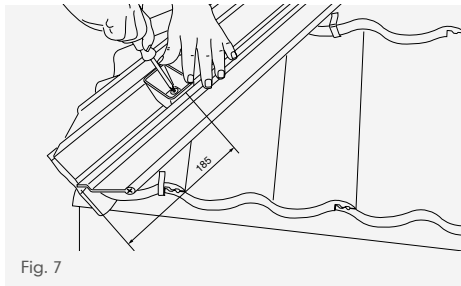

Fig. 7
- 10 Locate PVCu fixing/expansion blocks inside the dry hip batten section and fix to hip tree or rafter using the 75mm x 10g stainless steel drive screws (supplied in fixing kit) (Fig. 7).